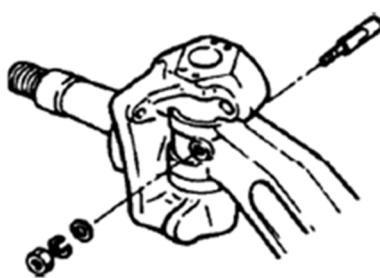

Figure 3-29.
- 6) Installing positioning plug and assemble of washer, nut (Figure 3-29).